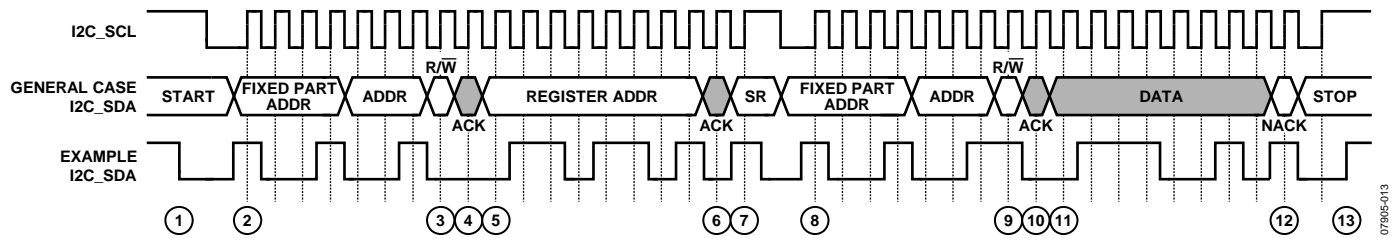

Figure 33. I2C Read Procedure
To read data from the ADV3002 register set, an I2C master (such as a microcontroller) needs to send the appropriate control signals to the ADV3002 slave device. The signals are controlled by the I2C master unless otherwise specified. For a diagram of the procedure, see Figure 33. The steps for a read procedure are as follows:
3. Send the write indicator bit (0).
7. Send a repeated start condition (SR) by holding the I2C\_SCL line high and pulling the I2C\_SDA line low.
9. Send the read indicator bit (1).
- a. Send a no acknowledge (NACK) followed by a stop condition (while holding the I2C\_SCL line high and pulling the SDA line high) and release control of the bus to end the transaction (shown in Figure 33).